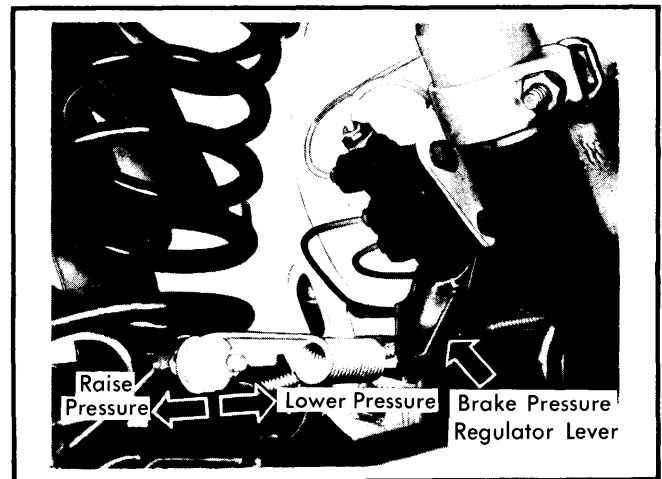

Fig. 1 Brake Pressure Regulator Adjustment
4) If pressure is too high at rear axle, release spring tension by loosening bolt and moving toward front of car. If pressure is too low, loosen and move toward rear of car. Tighten bolt and recheck pressures. See Fig. 1.